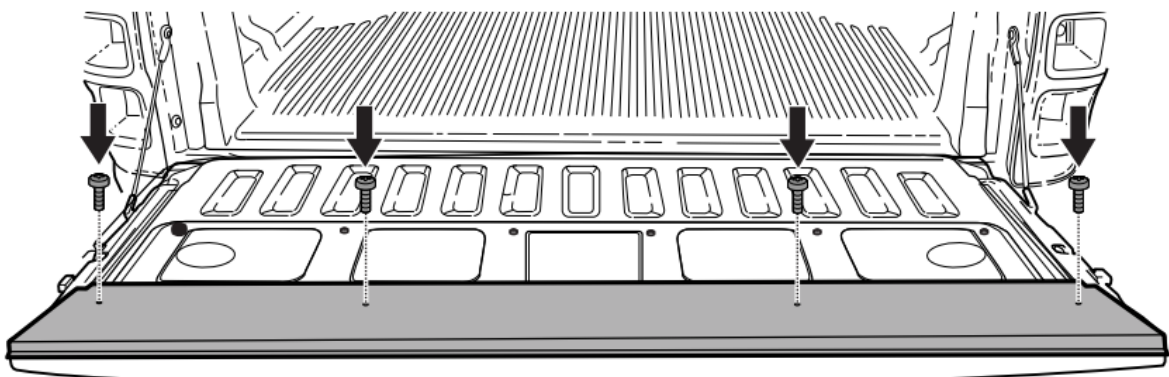

Figure 6
- c. Place the 4 factory screws back on to secure the tailgate rail. *See Figure 6*